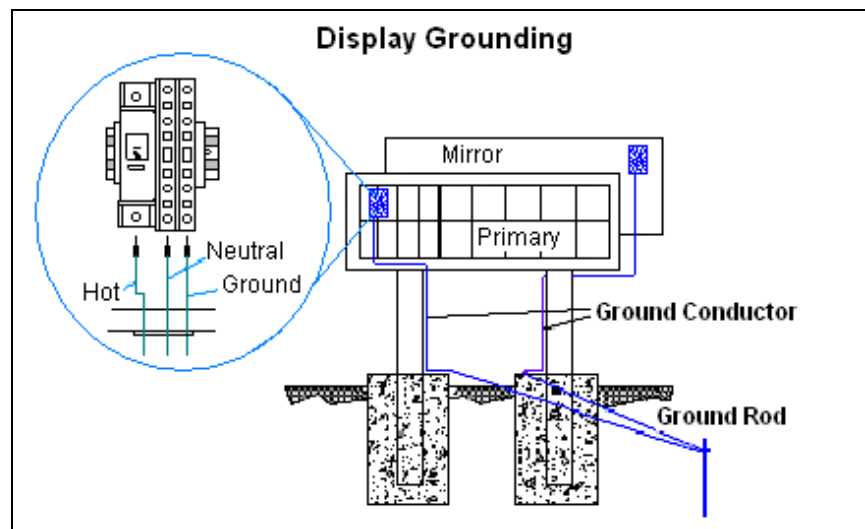

Figure 17: Power Installation to Power Termination Box)
4. Install the wires from the direct circuit into the breaker and cage clamps following the directions in **Figure 17**.